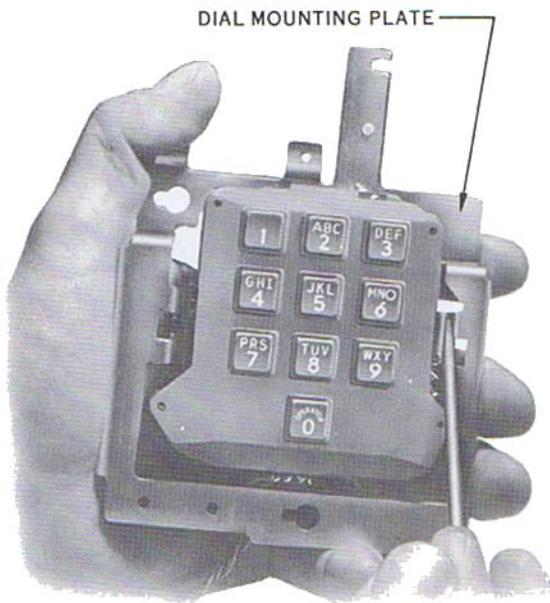

Fig. 22 - Removing TOUCH-TONE Dial
- (7) Hold dial mounting plate in hand (Fig. 22).
- (8) Insert screwdriver blade as shown in Fig. 22.